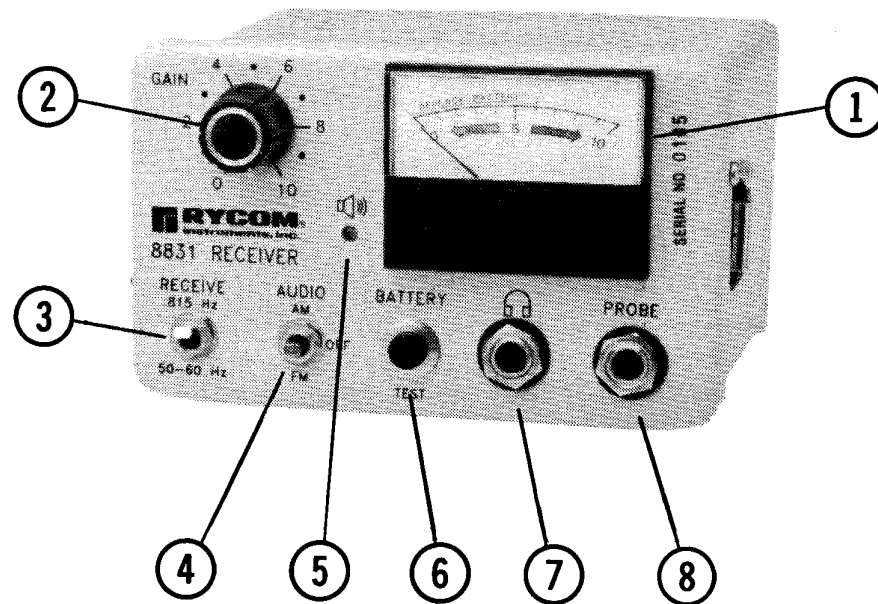

Figure 1-5. Receiver Features
- ③ **TRACE TONE SWITCH.** Flip to the 815 Hz position when you use the 8831 transmitter as the trace tone source. Trace energized power cable by flipping the switch to the 50-60 Hz position. Note that no transmitter hookup is required when tracing energized cable.
- a. Remove the 2 battery access screws (see Figure 1-5).